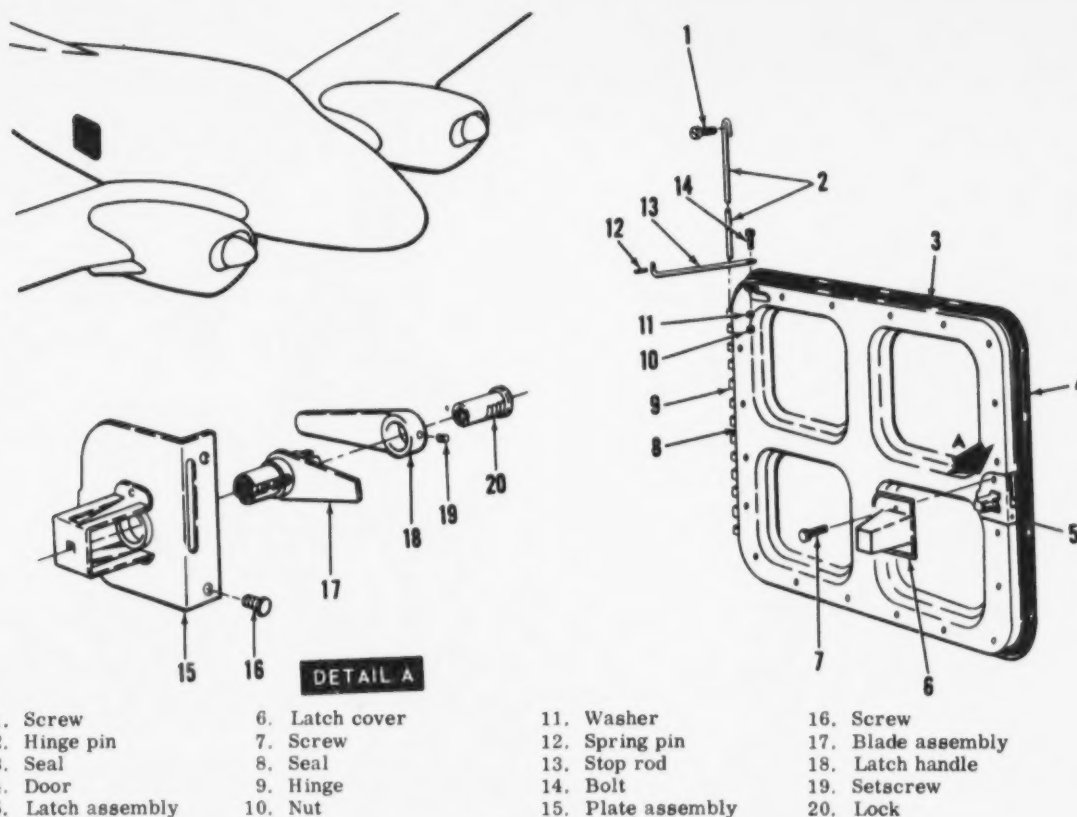

Figure 4-18. Baggage compartment door (U-8D and RU-8D)
4-92. The baggage compartment door (figure 4-18) is fabricated of aluminum alloy channel-type frame work and covered with a sheet aluminum skin. A key-operated latch and a rubber seal provide maximum security for the compartment. A continuous piano-type hinge secures the door to the baggage compartment. The door is held in the full open position by a door stop.
a. Removal. (1) Remove bolt (14, figure 4-18), washer (11), and nut (10) securing stop rod (13) to door (4), and remove stop rod.
(2) Remove screw (1) securing hinge pin (2) then remove hinge pin and door (4).
c. Inspection. (1) Inspect hinge halves for cracks, bends, or excessive wear.
(2) Inspect door seal for proper adhesion, deterioration, and cuts.
(3) Inspect latch for proper operation, cracks, and bends.
d. Installation. (1) Position door (4, figure 4-18), insert hinge pin (2), and secure with screw (1).
(2) Position stop rod (13) on door (4) and secure with bolt (14), washer (11), and nut (10).
a. Removal. (1) Remove setscrew (19, figure 4-18) from latch handle (18).
(2) Rotate latch handle (18) and withdraw handle and lock (20) from blade assembly (17).
(3) Remove screws (7) from latch cover (6) and remove latch cover.
(4) Remove screws (16) from plate assembly (15) and remove plate assembly and blade assembly (17).
b. Cleaning. Clean each part of door latch with solvent (item 6, table 1-8) and dry with compressed air.
c. Inspection. (1) Inspect all parts for cracks, bends, or distortion.
(2) Inspect mounting holes for cracks or elongation.
d. Installation. (1) Position blade assembly (17, figure 4-18) in plate assembly (15) and secure plate assembly to door (4) with screws (16).
(2) Install lock (20) through latch handle (18); position latch handle and secure with setscrew (16).
(3) Position latch cover (6) and secure with screws (7).